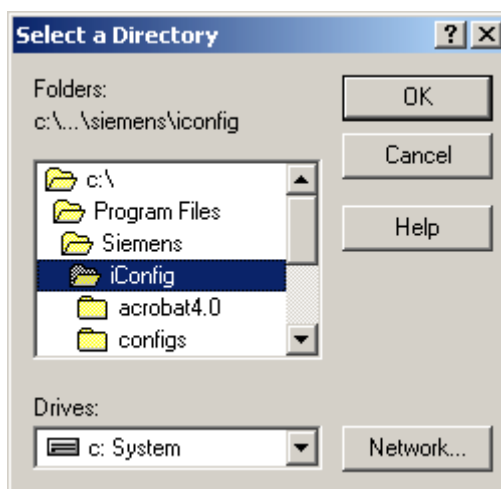

Figure 12-3 Select a Directory dialog
2. Click Browse. The Select a Directory dialog displays. See Figure 12-3